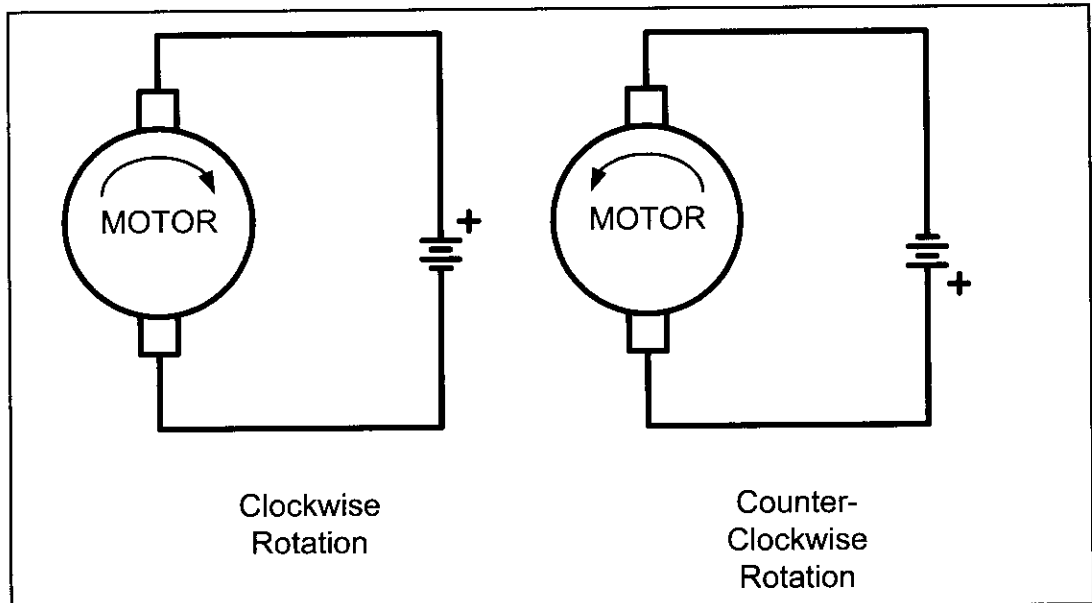

Figure 17-13. DC Motor Rotation (Permanent Magnet Field)
Figure 17-13 shows the DC motor rotation for clockwise (CW) and counterclockwise (CCW) rotations. See Table 17-9 for selected DC motors.